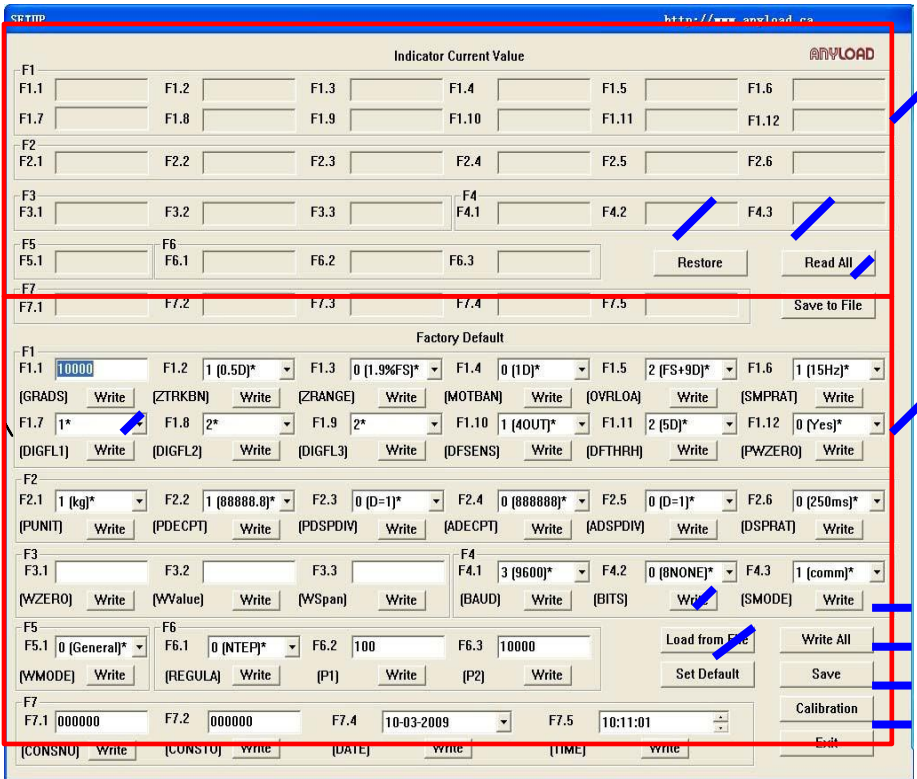

Figure 1.2.3 805TS Setup Interface
**Parameter Setup** - Setting the parameters of 805TS indicator. Click and will enter into the 805TS Setup Interface (see figure 1.2.3).
### 1.2.3 805TS Setup Interface ( see Figure 1.2.3 )